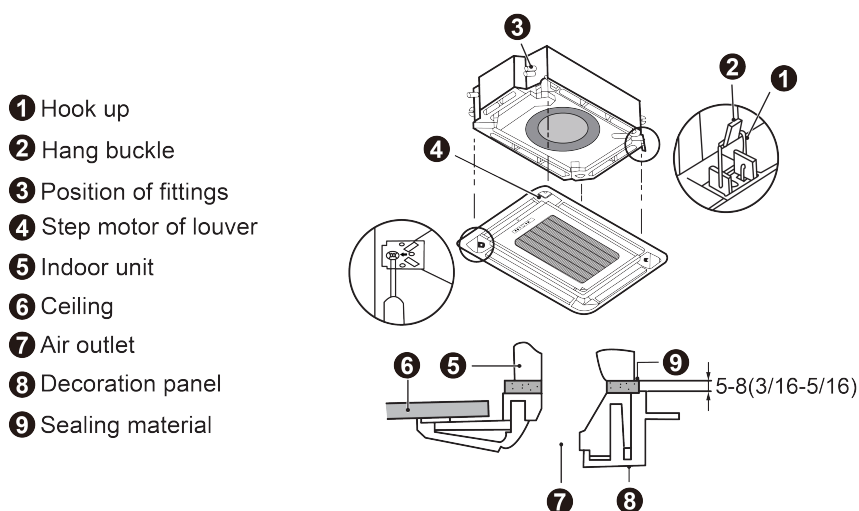
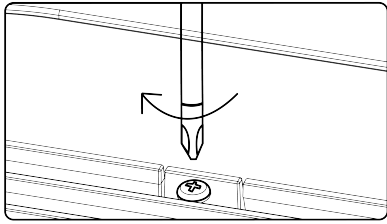

Fig.4.5.4
Fig.4.5.5
- (1) Detach the panel's Corner Cap, there is a mark "piping side" on one of the 4 corners, adjust the panel direction so as to keep the mark and fittings on the same corner.
- (2) Temporarily hang the panel to body (there are four hangers on each corner of the panel, hang the hangers to corresponding hooks on the body), as shown in Fig.4.5.4.
- (3) Detach the air inlet grille from panel, make a wiring connection of signal receiver. Notice that the connection wire not stuck in the middle of body and panel, or may cause air leakage and lead to condensation water drop.
- (4) Tighten 4 screws at each corner of panel respectively, fix the panel on the body firmly
- (5) After tightening screws, reinstall the air inlet grille.
- (6) Fit the two screws in the Panel Accessory, please refer to Fig. 4.5.5.